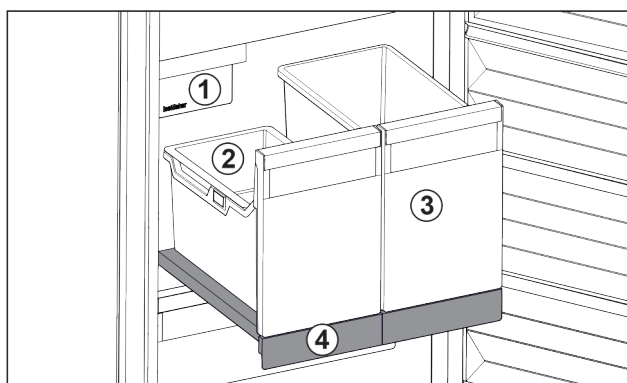

Fig. 28 Pull-out board with IceTower
- (1) IceMaker
- (2) Hang-on tray for ice cubes
- (3) Container for pizza or alcoholic beverages, for example
- (4) Pull-out board
On the pull-out board are two tall containers (IceTower). Ice cubes from the IceMaker are collected and stored in the container Fig. 28 (2). The container Fig. 28 (3) is suitable for storing tall foodstuffs or beverages such as pizzas or alcoholic drinks.